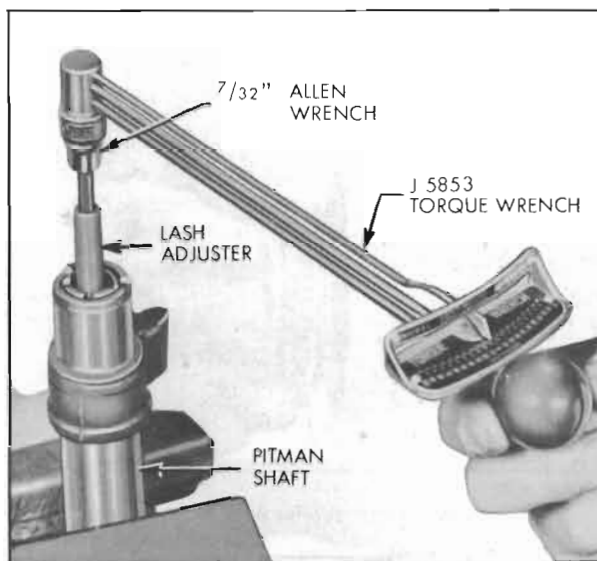

Figure 8-44—Checking Torque on Lash Adjuster
3. Check the torque on the lash adjuster. See Figure 8-44. If torque exceeds 15 inch pounds, pitman shaft assembly should be replaced.